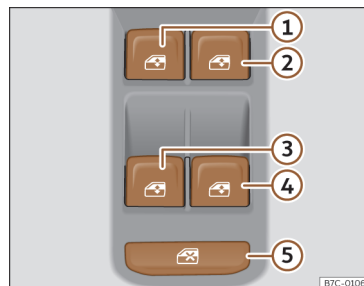

Fig. 79 Detail of the driver's door: window controls.
The safety control >>> **Fig. 79** ⑤ on the driver's door can be used to disable the power window buttons on the rear doors.